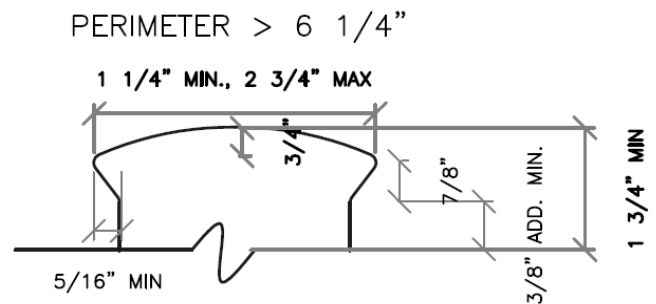

Figure 4. Noncircular handrail, with recess
- If the perimeter is greater than 6 1/4" shall have a graspable finger recess area on both sides as described in IRC Section 311.7.8.3 #2 (see Figure 4)